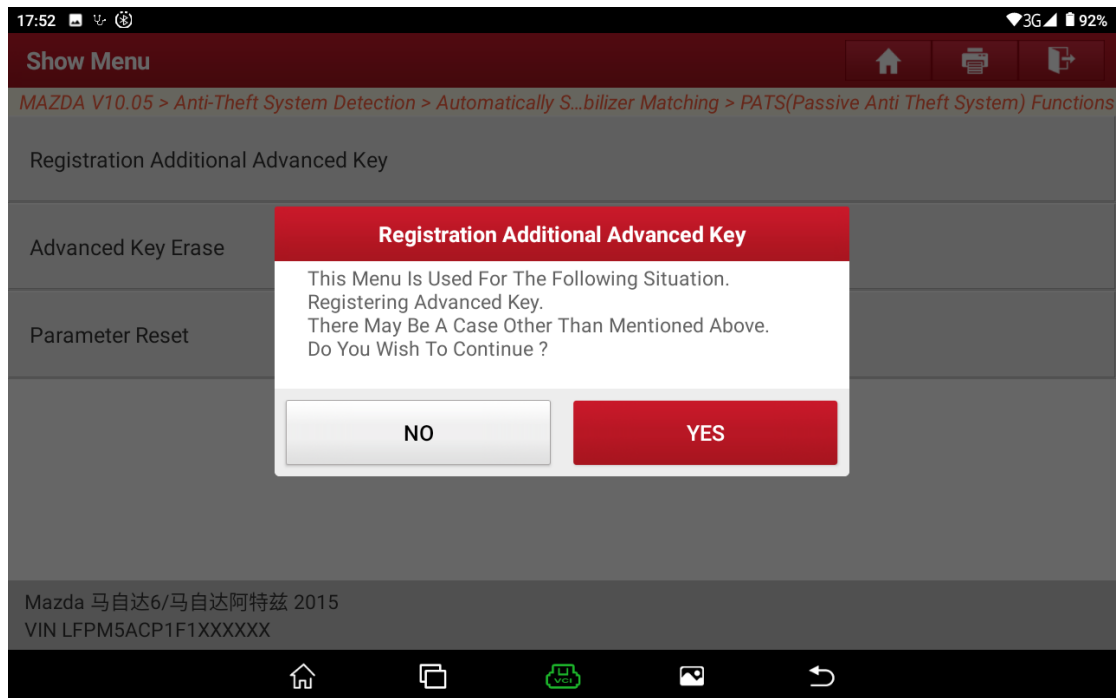

Figure A10
8. Choose [No] to exit the function, or choose [Yes] to access the next step. See Figure A10.